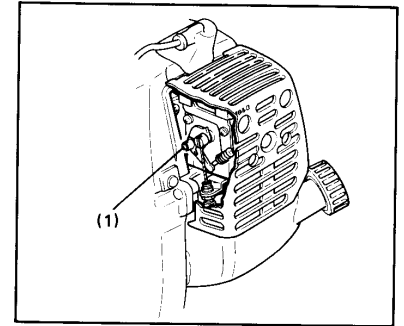

Fig. 14
6. Carburetor adjustment: (Fig. 14 & 15)
(See Fig. 14)